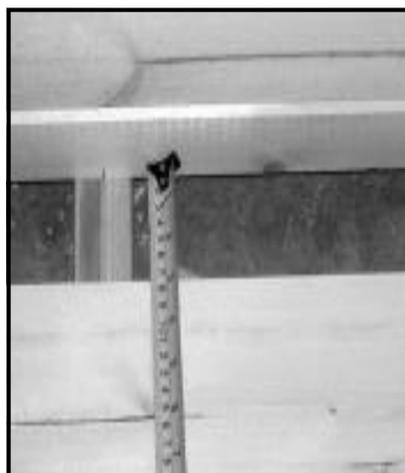

Fig L4
6. Measure the distance between the last full board and the wall (Fig L4). This measurement is then marked on the final board and then cut to Fit , **leaving the groove on the board** .